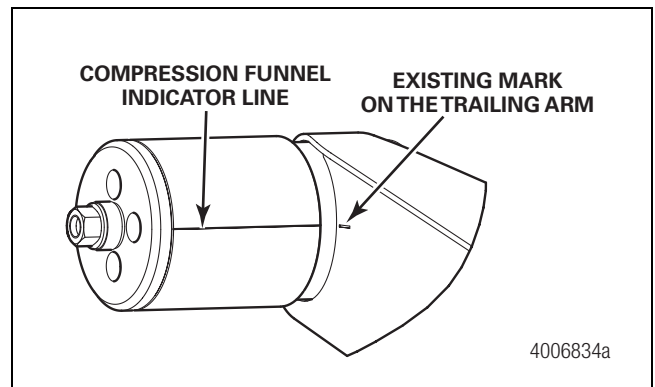

Figure 6
7. Place the small end of the compression funnel with the bushing over the draw bolt and onto the trailing arm bushing tube. Align the indicator mark on the compression funnel with the existing mark on the trailing arm. Figure 6.
9. Verify that the indicator line on the compression funnel lines up with the existing mark on the trailing arm. Figure 6.